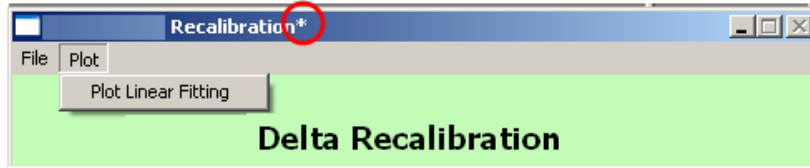

Figure 33: Delta Recalibration – Asterisk Indicating New Change
In this section, the user can click on the compute button to calculate the new calibration parameter(s). The compute button will be grayed out until values have been entered in the Certified and CRDS reported columns (Figure 30), and at least one pair of Certified and CRDS reported values selected for the calibration. Once these values are entered or selected, the “Compute” button will be active. Click “**Compute**” to calculate the new calibration parameters. These parameters will appear in the Calibration output section of the GUI, and an asterisk “*” will be displayed at the end of the window title line (Figure 33), indicating the new change.
Once the calibration parameters are calculated, you can elect to graphically display the calibration and quality control (QC) standards in a graph. To do this, click “**Plot**” in the upper left corner of the window, and select “**Plot Linear Fitting**” from the drop-down menu, as shown in Figure 33 below.